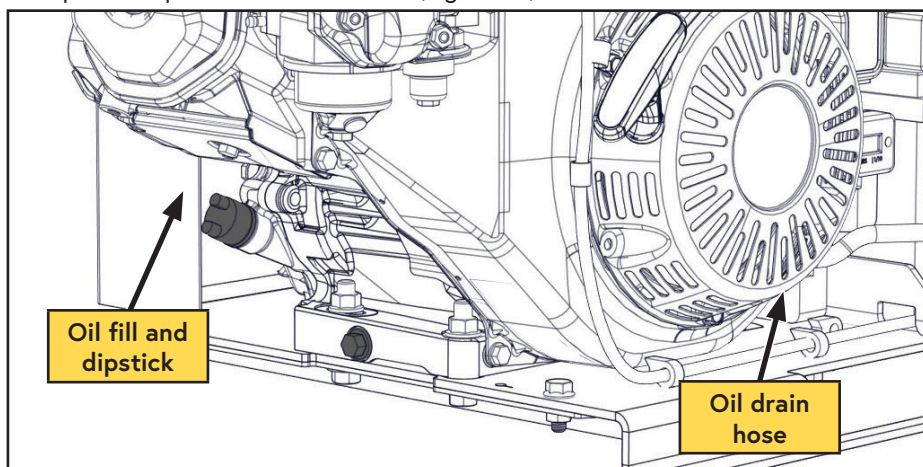

Figure 44 — Engine oil drain
- ☐ Locate the engine oil drain and clean the area around the drain plug and dipstick to prevent contamination (Figure 44).